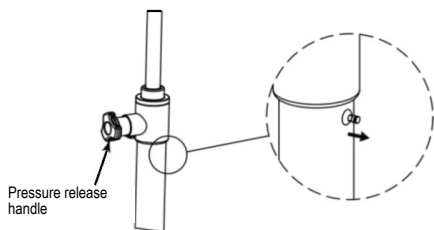

Fig. 5
3. Crane lowering: rotate the pressure release handle anticlockwise (Fig. 5); release the handle; the pressure exhaust valve will close automatically.